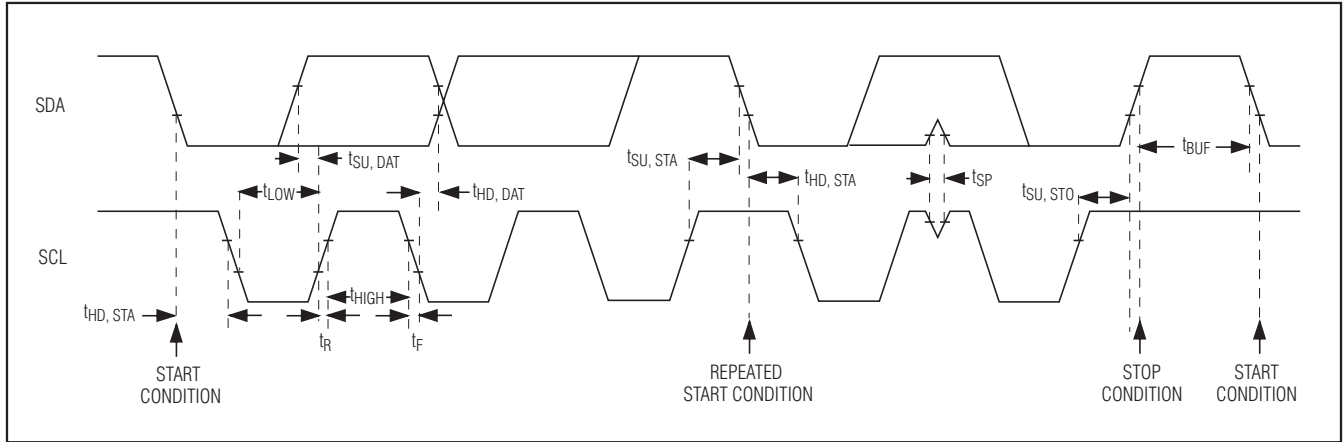

Figure 6. I²C Serial-Interface Timing Diagram
The MAX9670/MAX9671 feature an I²C/SMBus™-compatible, 2-wire serial interface consisting of a serial-data line (SDA) and a serial-clock line (SCL). SDA and SCL facilitate communication between the MAX9670/MAX9671 and the master at clock rates up to 400kHz. Figure 6 shows the 2-wire interface timing diagram. The master generates SCL and initiates data transfer on the bus. A master device writes data to the MAX9670/MAX9671 by transmitting a START (S) condition, the proper slave address with the R/W bit set to 0, followed by the register address and then the data word. Each transmit sequence is framed by a START and a STOP (P) condition. Each word transmitted to the MAX9670/MAX9671 is 8 bits long and is followed by an acknowledge clock pulse. A master reads from the MAX9670/MAX9671 by transmitting the slave address with the R/W bit set to 0, the register address of the register to be read, a REPEATED START (Sr) condition, the slave address with the R/W bit set to 1, followed by a series of SCL pulses. The MAX9670/MAX9671 transmit data on SDA in sync with the master-generated SCL pulses. The master acknowledges receipt of each byte of data. Each read sequence is framed by a START or